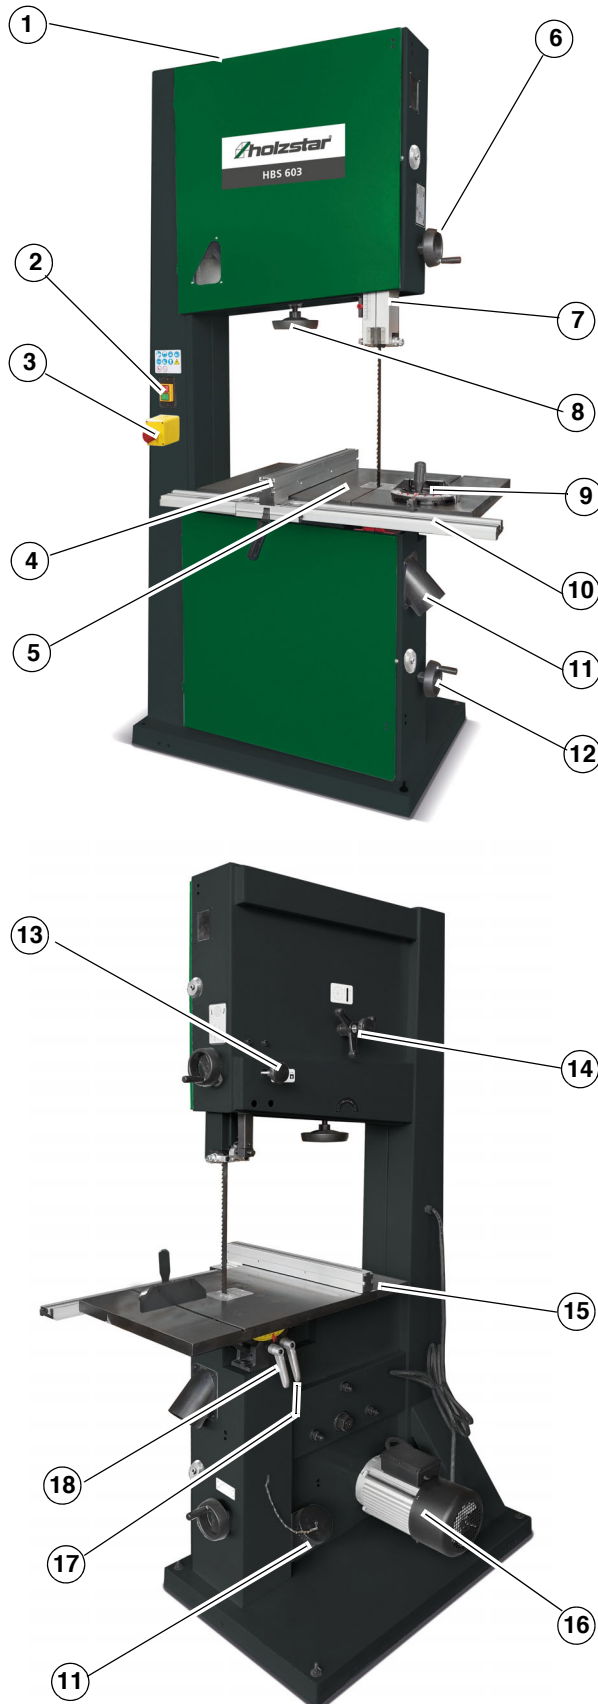

Fig. 4: Machine description
Step 1: Mount the handwheel (pos. 6, fig. 4) for the height adjustment of the saw band and tighten it with a 10 mm spanner.
Step 2: Attach the handwheel (pos. 12, fig. 4) for the belt tension and tighten it with a 10 mm spanner.
Step 3: Mount the suction socket (pos. 11, fig. 4) on the lower side of the machine cover using the 4 screws M5x16.